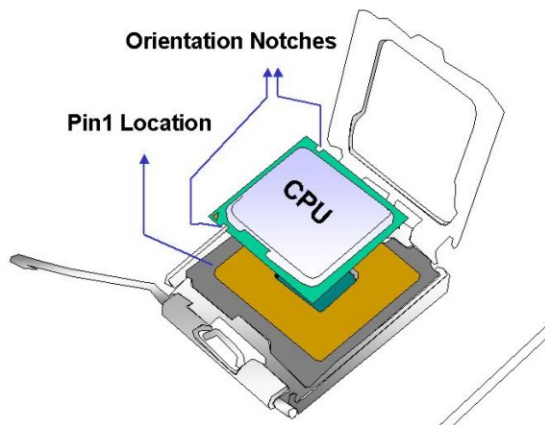

Figure 4-4: Insert the Socket LGA1155 CPU
- Step 7:** Insert the CPU. Gently insert the CPU into the socket. If the CPU pins are properly aligned, the CPU should slide into the CPU socket smoothly. See **Figure 4-4**.